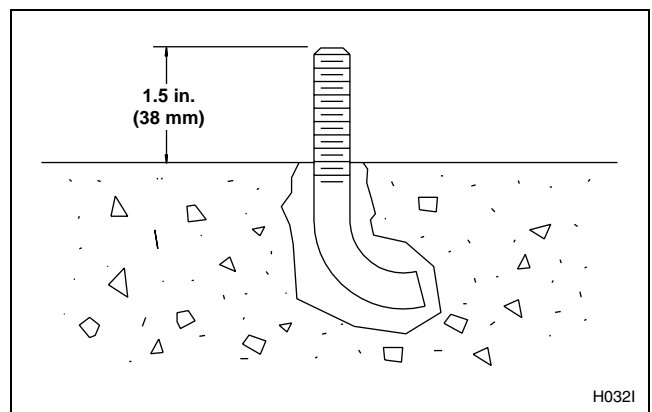

Figure 34
6. Verify that the J-bolts are in the correct locations and that 1.5 inches (38 mm) of each J-bolt protrude from the floor. Refer to *Figure 34*.